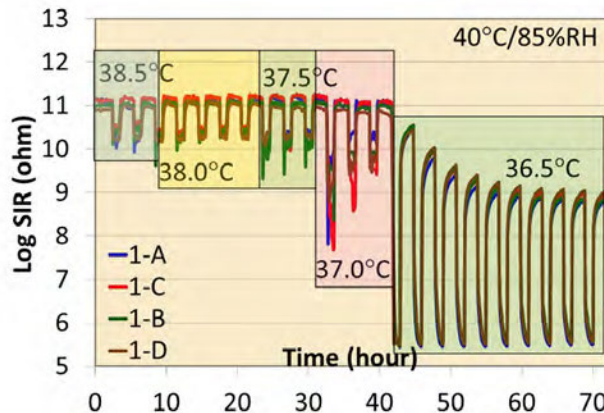

Figure 3: SIR response as the platen was cycled to cooler temperatures.
The effect on surface insulation resistance (SIR) on a test PCB with 4 SIR patterns with a 400 µm track and 200µm gap in an ambient condition of 40°C/85% relative humidity (RH) is now explored. This PCB is not conformally coated, the ENIG finished copper is fully exposed. In Figure 3, the effect of cycling to increasingly lower temperatures is presented.